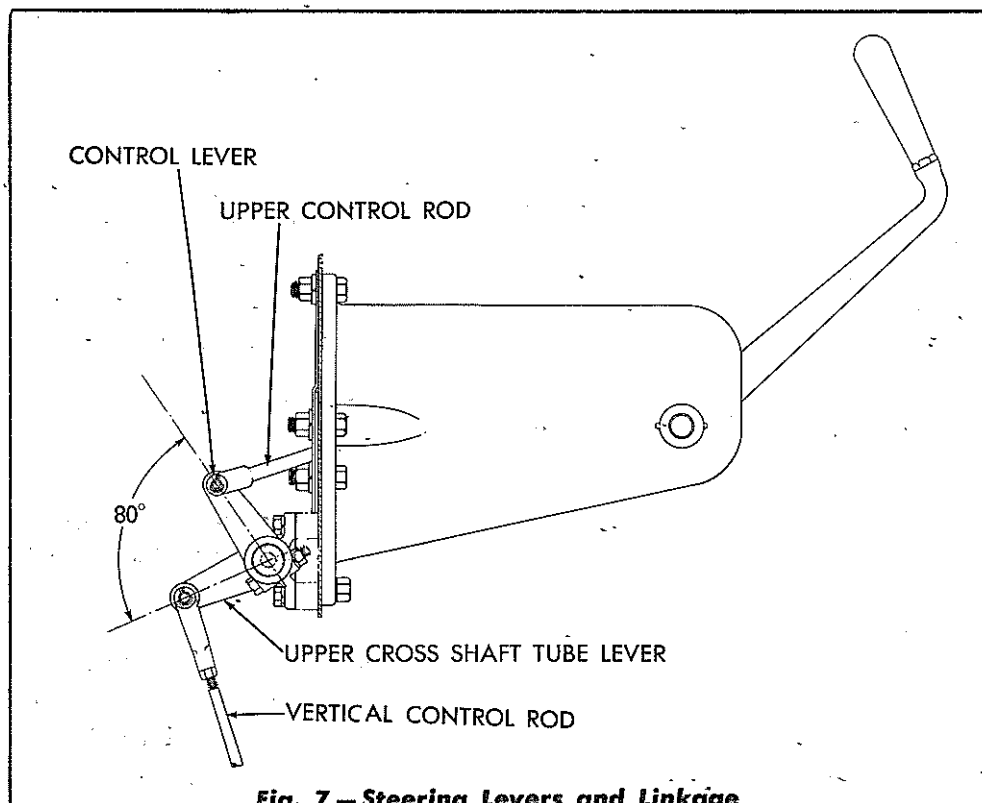

Fig. 7 — Steering Levers and Linkage
If the upper control levers have been removed from the upper cross shaft and the upper cross shaft tube, it will be necessary to position the two sets of levers on the cross shaft tube correctly when reinstalling, as they are mounted on serrations of the cross shaft tube. When installing the two (2) levers on the cross shaft tube, position the levers on the tube 80° apart, as illustrated in Fig. 7, before the linkage is adjusted.